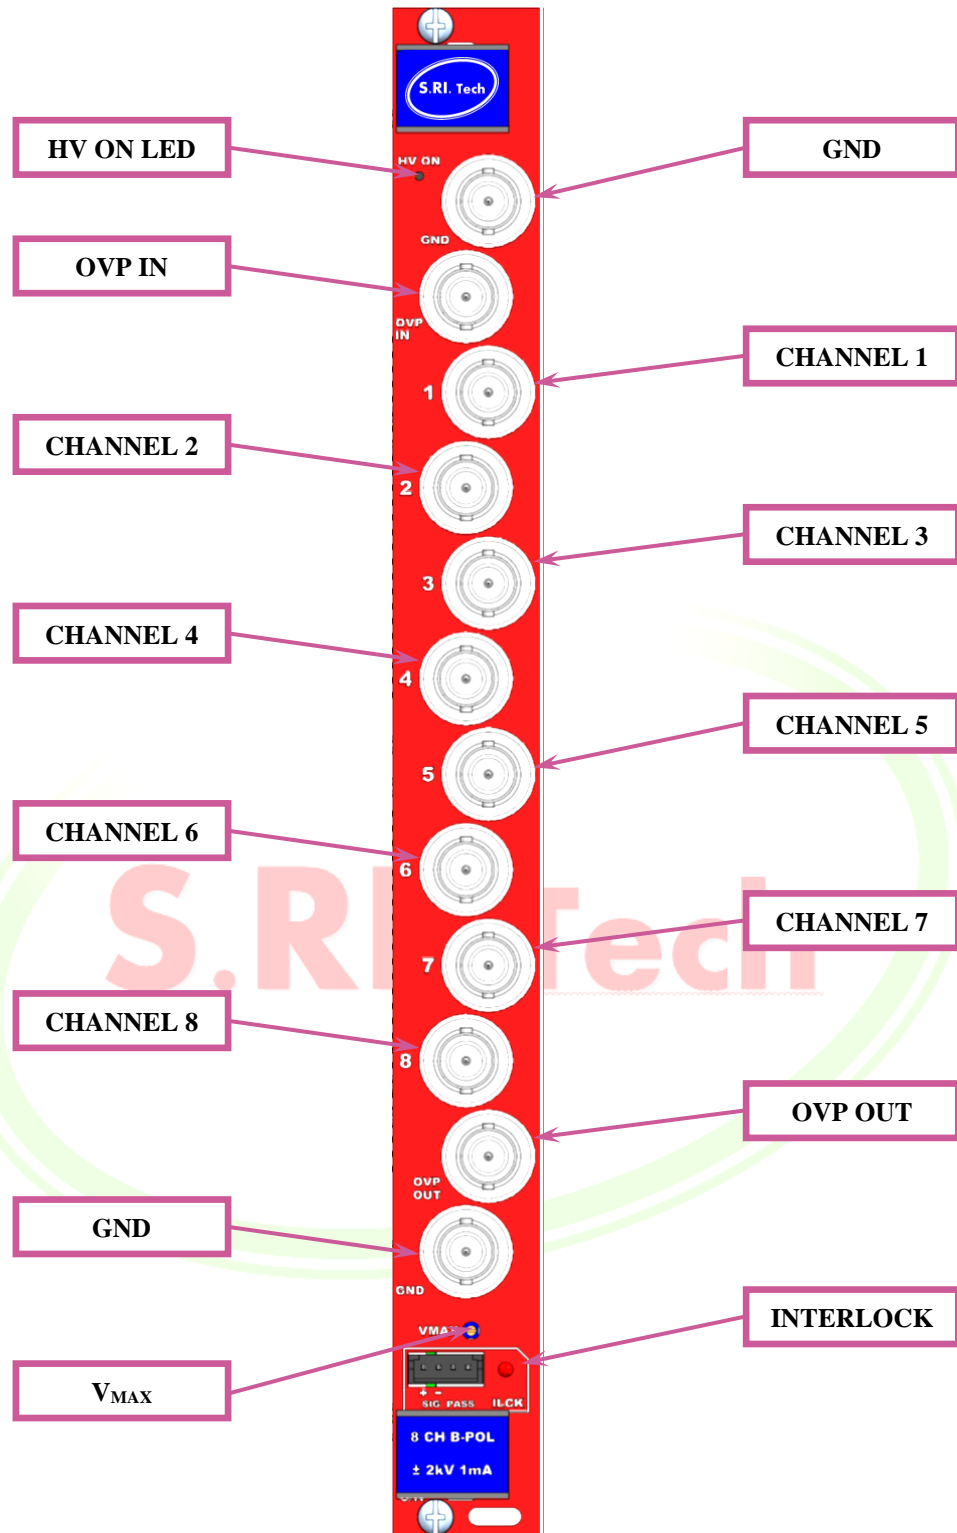

Figure 4: A1522 multi-channel HV board
The A1522 board is a multi-channel board that contains eight (8) independent high-voltage channels described in **Figure 4**. Up to six (6) different boards can be